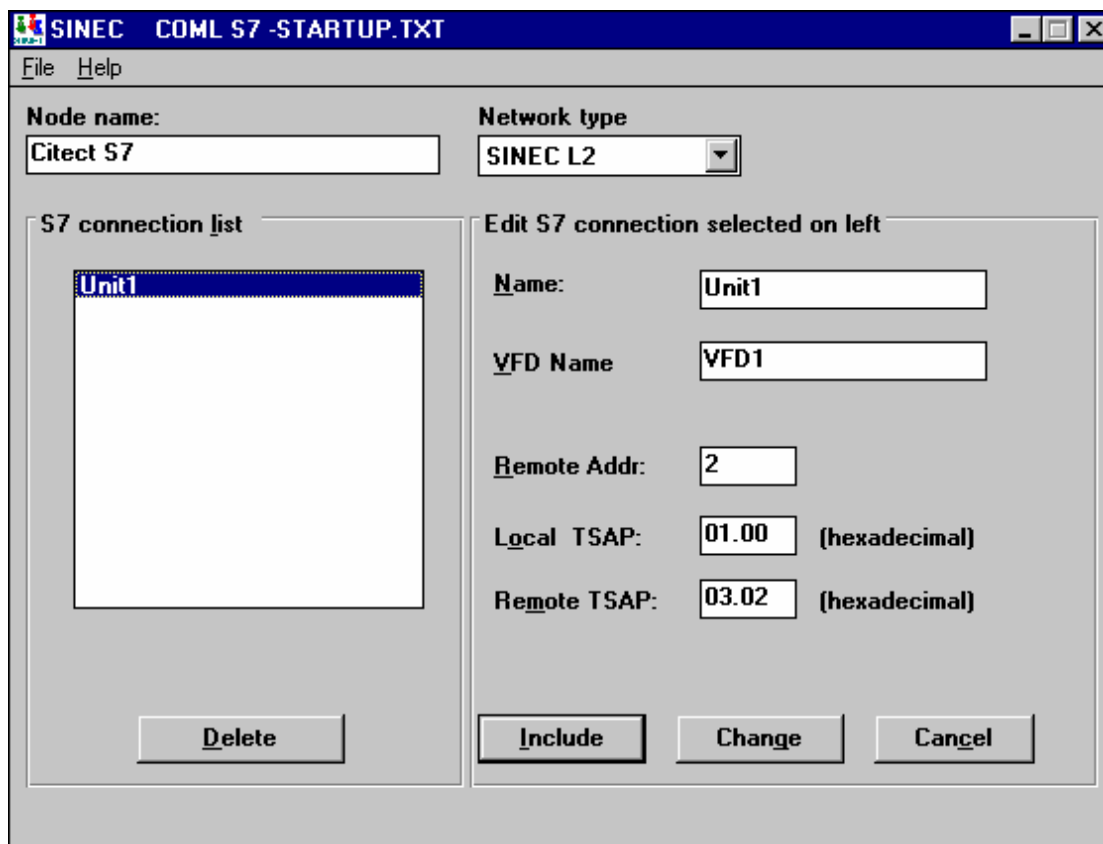

Figure 1.
3. Fill in the dialogue box, see figure 1 bellow.
4. Fill in the dialogue box, see figure 1 above.
7. Fill in the dialogue box, see figure 1.